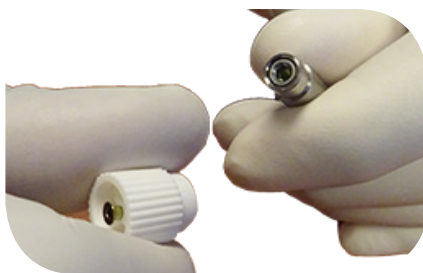

Fig 8.0
- a. Remove implant with carrier from the inner plastic tube and snap away white cover. (Fig 8.0)
a. Gently remove the white plastic cap from the titanium barrel (Fig 8.0).